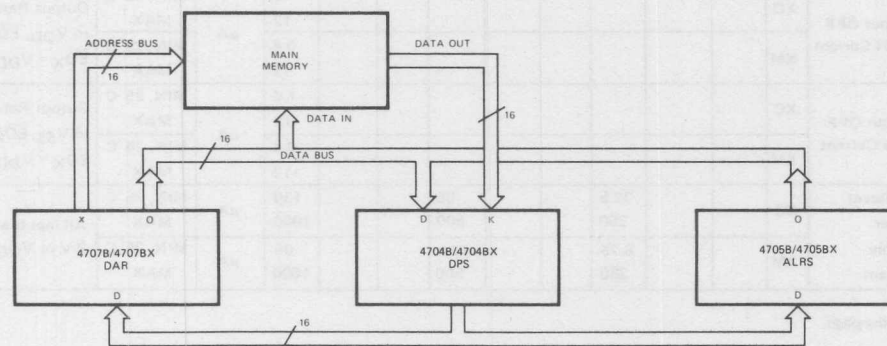

Fig. 1
APPLICATIONS — The 4707B/4707BX is organized as a 4-bit register slice. The \bar{CI} and \bar{CO} lines allow ripple-carry expansion over longer word lengths. Figure 1 is a block diagram of a typical application. Each block of the Macrologic parts represents four identical slices, thus creating a 16-bit array. For this application the register utilizations in the DAR may be as follows: R_0 is the Program Counter (PC), R_1 is the Stack Pointer (SP) for memory resident stack and R_2 contains the operand address. For an instruction fetch, PC can be gated on the X-Bus while it is being incremented (i.e., D-Bus = 1). If the fetched instruction calls for an effective address for calculation, which is displaced from the PC, the displacement can be added to the PC and loaded into R_2 during the next microcycle.